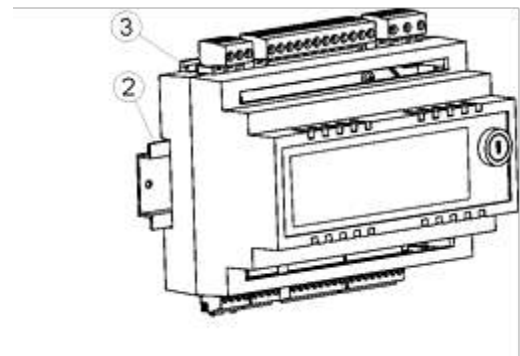

Fig. 1 Installing the module on the rail:
Module B and C is designed for installation on the standardized DIN TS35 rail. The rail should be firmly installed on the rigid surface. Prior to installing the module on the rail (2) use a screwdriver to lift clips (3) up (Fig. 1). After installing on the rail press clips
(3) to their original position. Make sure the device is firmly mounted and it is not possible to remove it from the rail without tools.